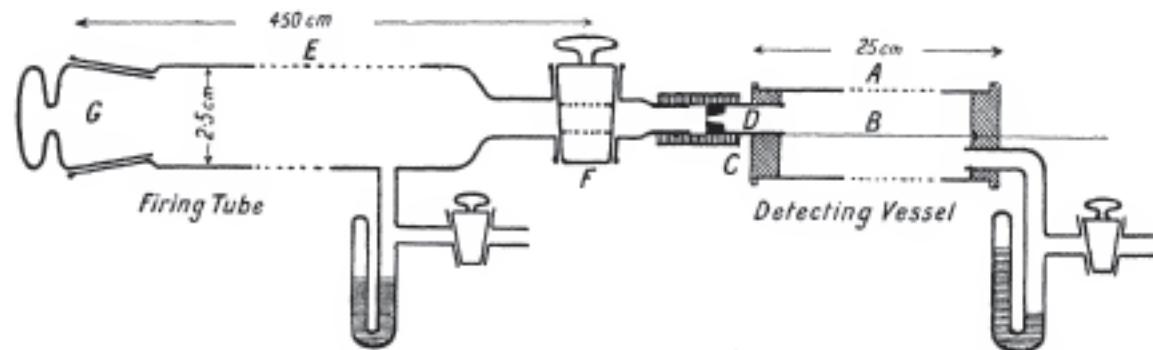

FIG. 1.
Figure 1: Display of the  $\tau^-$  candidate event. Top left: view transverse to the neutrino direction. Top right: same view zoomed on the vertices. Bottom: longitudinal view.
*Experimental Arrangement.*—Before considering the various difficulties that arose in the course of the investigations, a brief description will be given of the method finally adopted. The experimental arrangement is shown in fig. 1. The detecting vessel consisted of a brass cylinder A, from 15 to